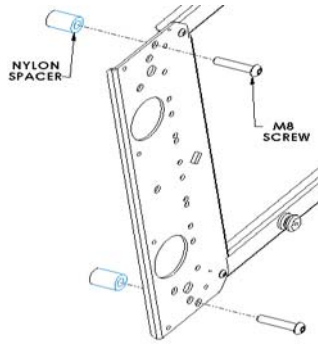
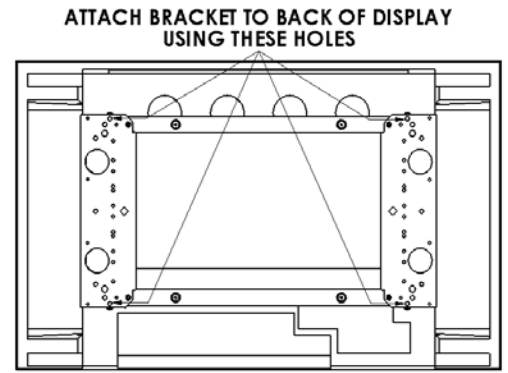

Figure 6
Figure 7
4. Place Nylon spacers over mounting holes on back of screen. Attach mounting brackets to display using M8 screws (see Figure 6 & Figure 7).